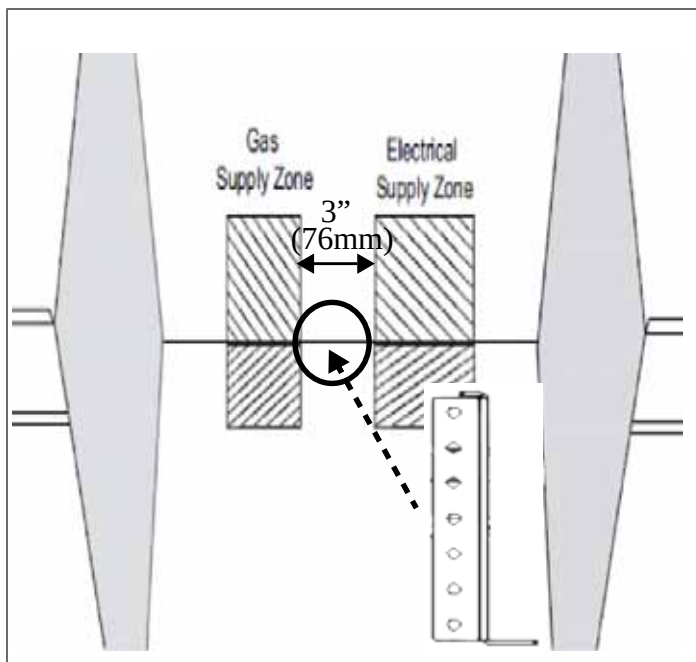
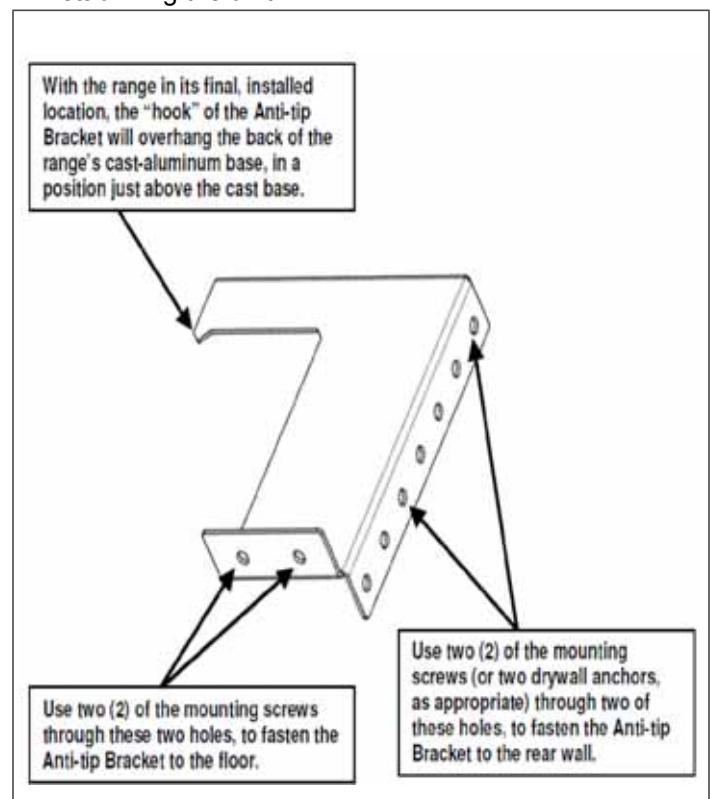

FIGURE 8: ANTI-TIP BRACKET MOUNTING LOCATION
FIGURE 9: ANTI-TIP BRACKET
- In all cases, at least (2) of the bracket mounting screws must firmly fasten the anti-tip bracket to the floor, and (2) of the mounting screws (or drywall anchors) must firmly fasten the anti-tip bracket to the rear wall (see Figure 8 and Figure 9).
1. Place bracket on floor near the center of where the unit is to be finally located (shown in Figure 8).